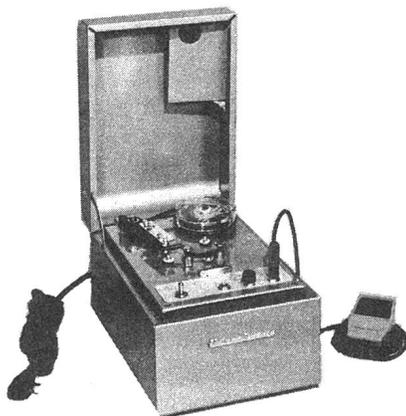

FIG. 2
1. Place it on horseshoe shaped spindle located in right rear of set. See Fig. 2.